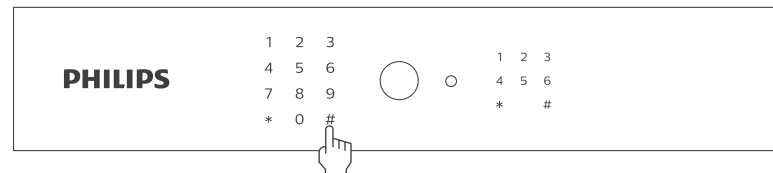

Figure 1
2. As shown in Figure 1, enter any fingerprint or simply touch the panel to wake up the keypad. Enter default password "1234" and press "#" to confirm. After hearing a voice prompt "Unlocking successful", open battery compartment inside the safe and insert in 4 AA batteries to complete the first use.